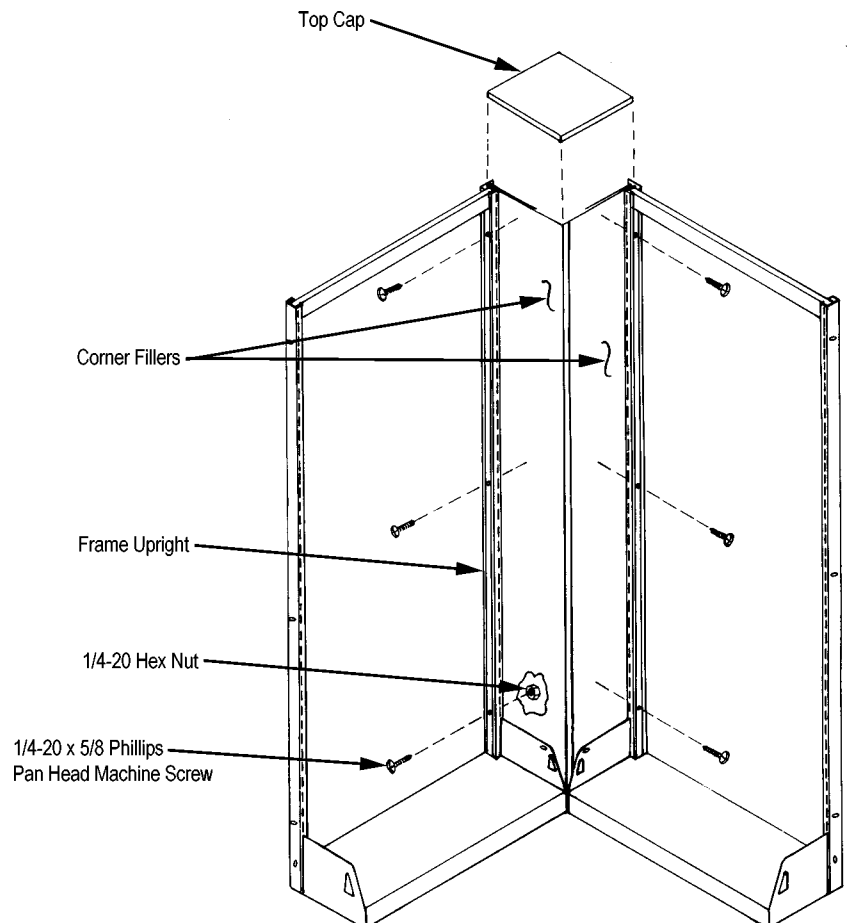

FIGURE 43
1. Attach the corner filler pieces to the welded frame uprights through the holes provided using 1/4-20 x 5/8 Phillips pan head machine screws and 1/4-20 hex nuts. See Figure 43.